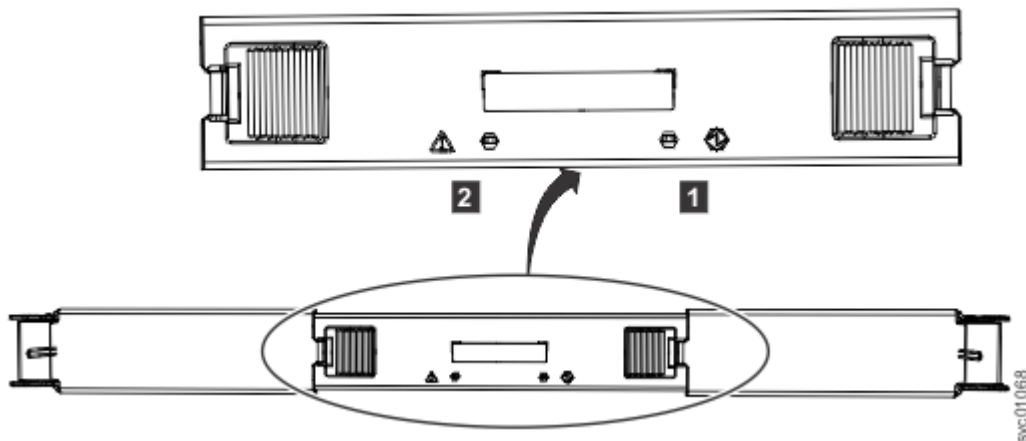

Figure 76. LEDs on a secondary expander module
2. Identify the secondary expander module to be replaced; Figure 76 on page 67 shows the LEDs on top of a secondary expander module.